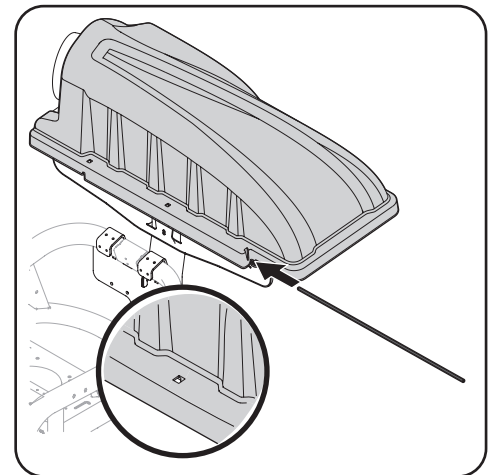

Figure 4-12
6. Slide the hinge pin into the hole located on the mounting tab, as shown in Figure 4-12. Use the cut-out windows (See inset in Figure 4-12) to line up the hinge pin on the other side and push pin all the way in until it reaches the end-stop. At this point the pin clips into place and is secured by a tab in the bagger cover.